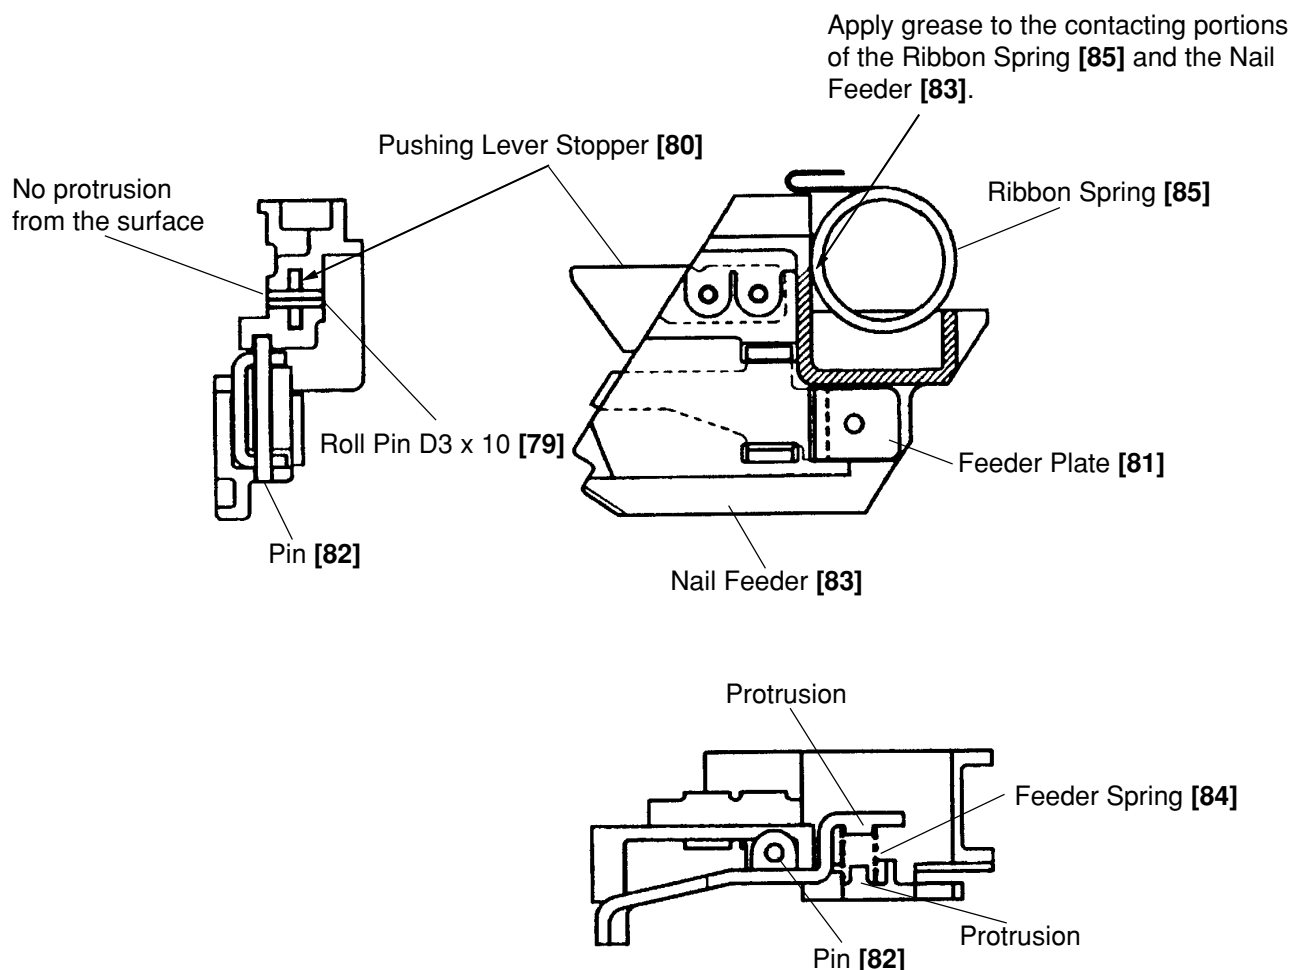

Fig.34
- After mounting the Feeder Plate [81] to the Nail Feeder [83], mount the Feeder Spring [84] aligning with the protruded portion. Then insert the Pin [82] (Fig. 34).
- Insert the Pushing Lever Stopper [80] into the Nail Feeder [83] and press-fit two Roll Pins D3 x 10 [79] to secure them. Be careful not to protrude the Roll Pins D3 x 10 [79] from the surface (Fig. 34).
- Apply grease to the contacting portions of the Ribbon Spring [85] and the Nail Feeder [83] (Fig. 34).